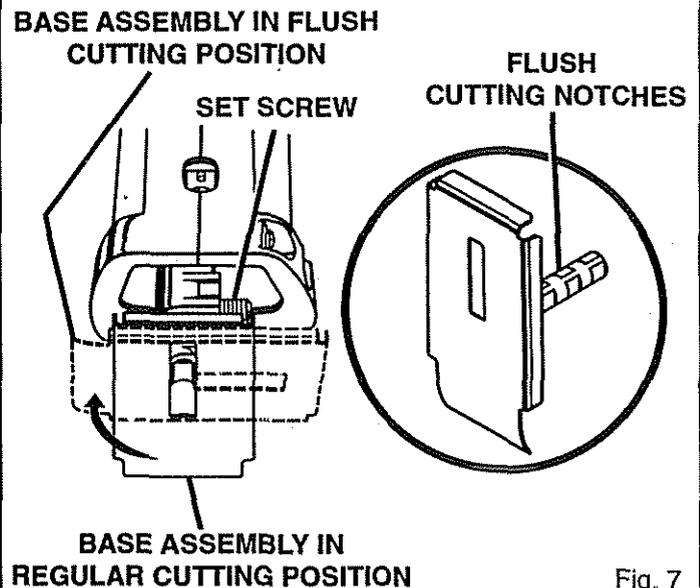

Fig. 7
6. Loosen set screw and turn base assembly clockwise 90°. See Figure 7.
11. Using the flat head screw provided, secure blade to saw bar assembly. See Figure 7.